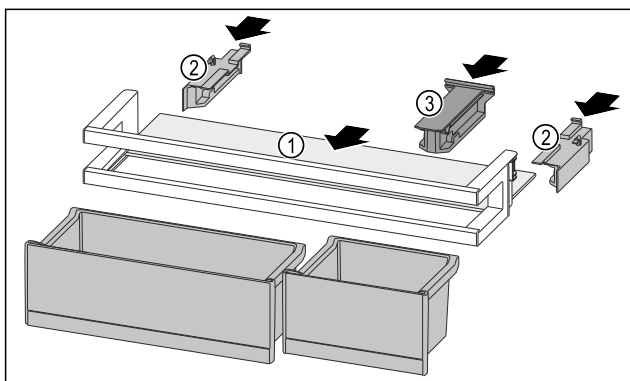

Fig. 189
- ▶ Push the shelf Fig. 189 (1) into the side recesses.
- ▶ Insert the side parts Fig. 189 (2).
- ▶ Insert the holding part Fig. 189 (3).